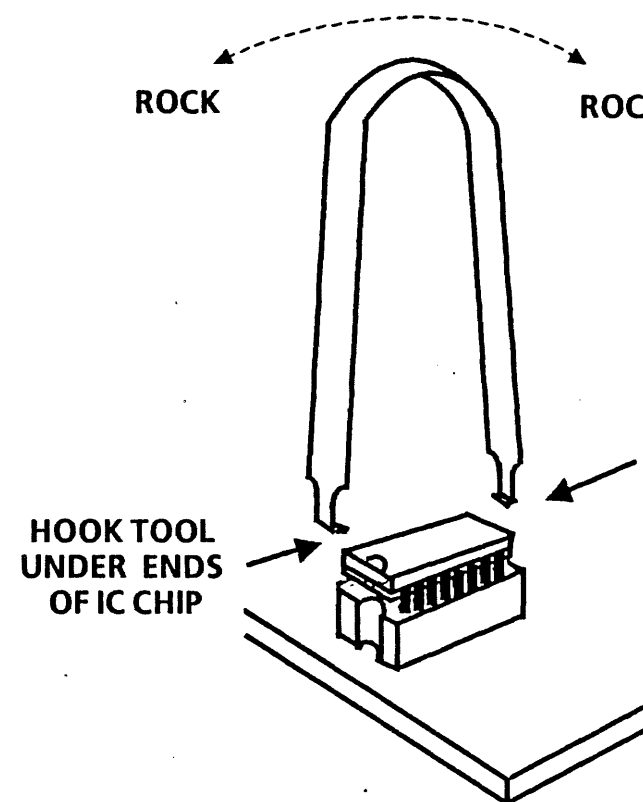

Figure 4-14 IC Chip Removal
4.17 IC CHIPS**REMOVAL (Figure 4-14)**